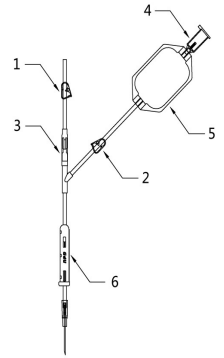

Figure 1
4. Close the clamp (Figure 1, #2) on sampling tubing.
4. Open the clamp (Figure 1, #2) or breakaway cannula on the sampling tubing and collect required volume of blood into the in-line sampling pouch (Figure 1, #5).
*If there is no sampling pouch in the system, directly insert the vacuum tube into the tube holder (Figure 1, #4) for blood sampling.
5. Close the clamp (Figure 1, #2) on the sampling tubing.
6. Open the breakaway cannula (Figure 1, #3) or the clamp on the donation tubing. **Note:** Make sure that the breakaway cannula is fully opened.
9. Close the clamp (Figure 1, #1) on the donation tubing after completion of blood collection.
10. Remove the tourniquet or blood pressure cuff, then remove the needle and lock the needle in the Needle Protective Device (NPD) (Figure 1, #6) completely. Connect the NPD to the barrel of the vacuum tube holder (Figure 1, #4). Seal and cut off the donation tubing just above the Y-connector, discard the needle and any other devices according to local protocol.
1. Pre-donation sampling device with sampling pouch (Figure 1, #5)